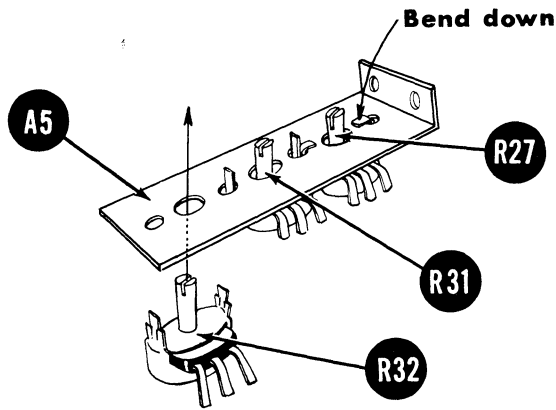

Fig. 1
- () Fig. 1. Mount the 10KΩ AC BAL. potentiometer, R27, on potentiometer mounting bracket, A5. Bend tabs in towards the shaft as shown.
- () Fig. 1. Likewise, mount the 2KΩ DC CAL. potentiometer, R31.
- () Fig. 1. In a similar manner, mount the 2KΩ AC CAL. potentiometer, R32.